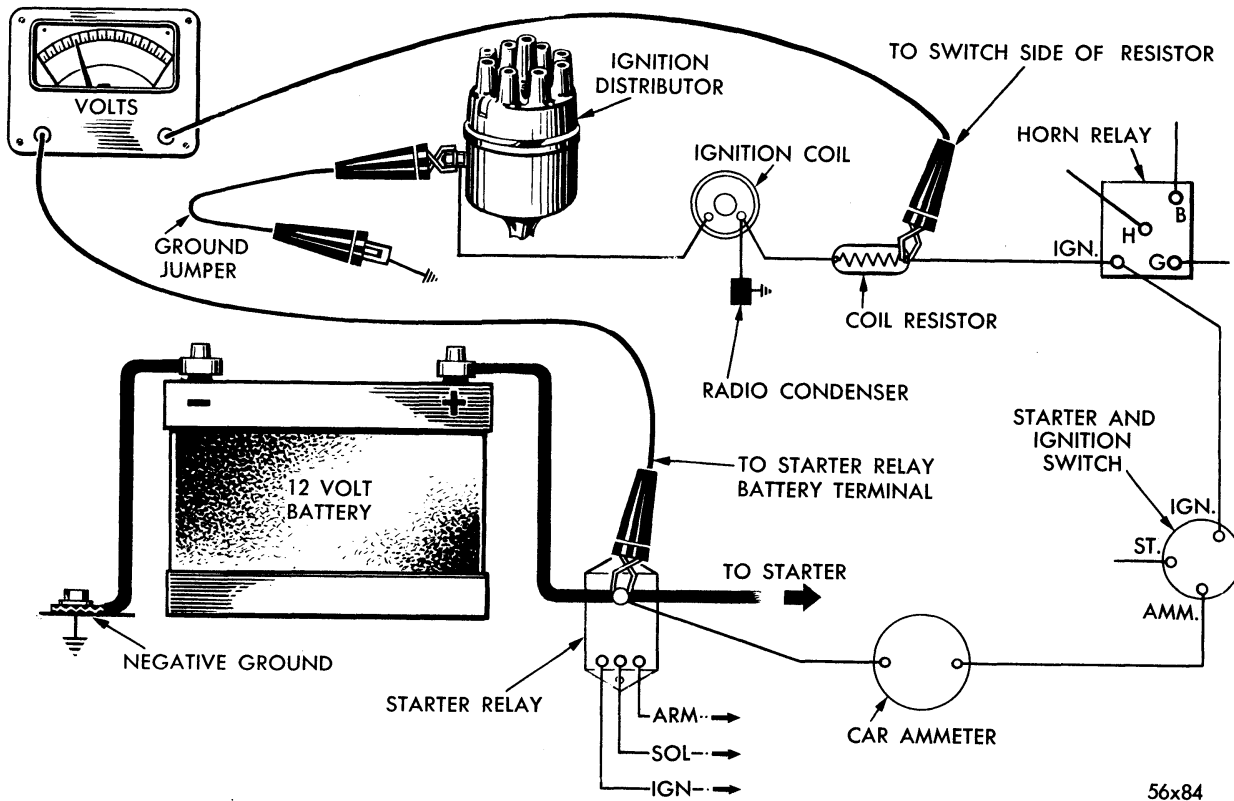

Fig. 18—Testing Primary Circuit Resistance
36. TESTING PRIMARY CIRCUIT RESISTANCE (FIG. 18)
tion block (Fig. 18).